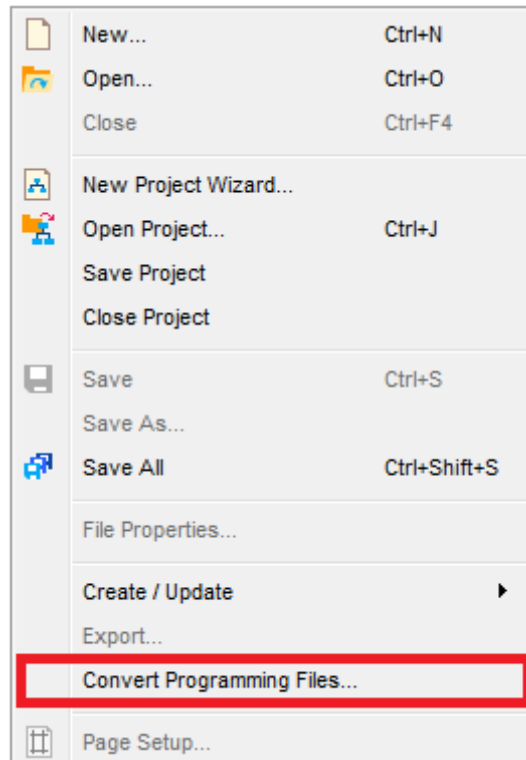

Figure 8-2 File menu of Quartus II
1. Choose **Convert Programming Files** from the File menu of Quartus II, as shown in **Figure 8-2**.